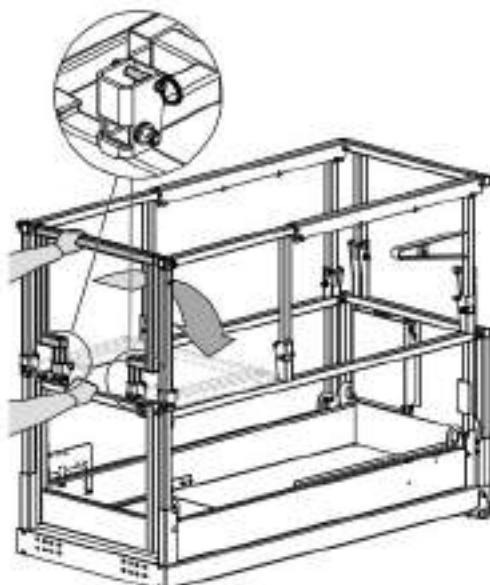

Figure 22 Rear gate folded
17. Hold the rear mid-rail with one hand, and then fold the rear gate with the other hand. Refer to Figure 22 for the hand positions.
29. Hold the mid-rail of the extension guardrail with one hand, and then fold the extension guardrail with the other hand. Refer to Figure 22 for the hand positions.